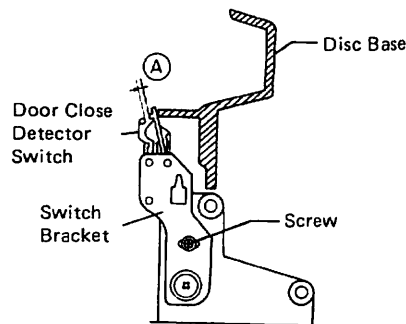

Figure 20-1
2. Make the door locked completely, and tighten the screw so that there is a clearance of 1mm at the part (A) shown in Fig. 20-1.